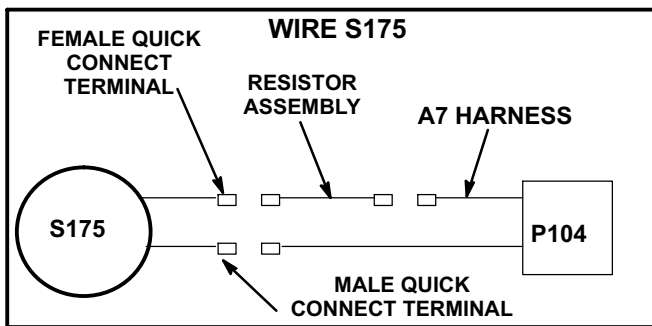

FIGURE 5
- 3- Make wiring connections as shown in figure 5. Secure harness with wire tie provided in kit.